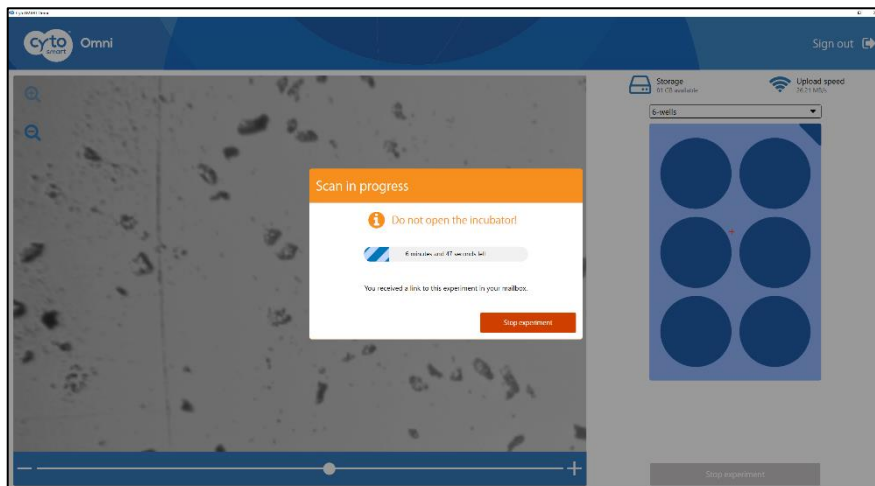
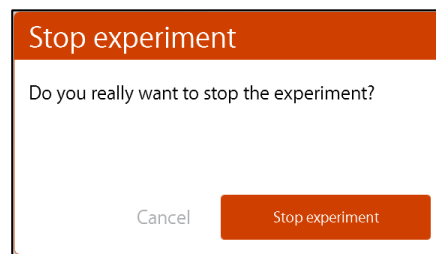

fig. 14. Scan in progress window.
fig. 18. Stop experiment window. Select “Stop experiment” to confirm.
- After entering the details, click the blue “Start experiment” button and the first scan of the experiment will start! A new window opens indicating a scan is in progress (fig. 14) and you will receive an email that the experiment has started with a link to the experiment page in the cloud. During the scan, you can not adjust any settings of the experiment.
Stopping is as easy as starting. To end an experiment, select the red “Stop experiment” button in the *Scan in progress* window (fig. 14 and 15) or in the *Experiment page* (fig. 17). A new window will appear asking you if you really want to stop the experiment (fig. 18). Select “Stop experiment” to confirm. A confirmation email indicating that the experiment has ended will be sent.